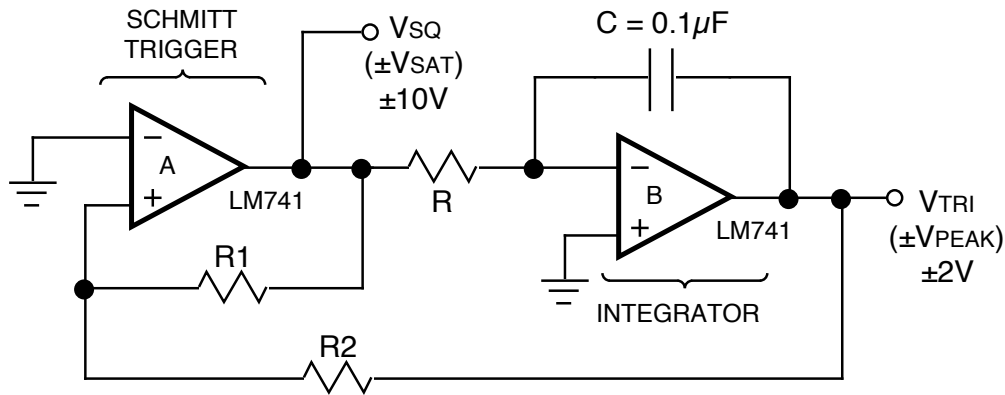

Figure 3.1. Function Generator.
- P1. Function generator: Figure 3.1 shows a function generator circuit that produces both square wave and triangular wave outputs.
1. Construct the circuit of Figure 3.1 with your design values from prelab section P1.2. Use the LM348 quad op-amp, which contains four independent LM741 op-amps in a 14-pin package. Begin with the supply voltages at $\pm 12\text{V}$. Once the circuit is operating, adjust the supplies independently for comparator outputs of $\pm V_{\text{SAT}} = \pm 10\text{V}$.